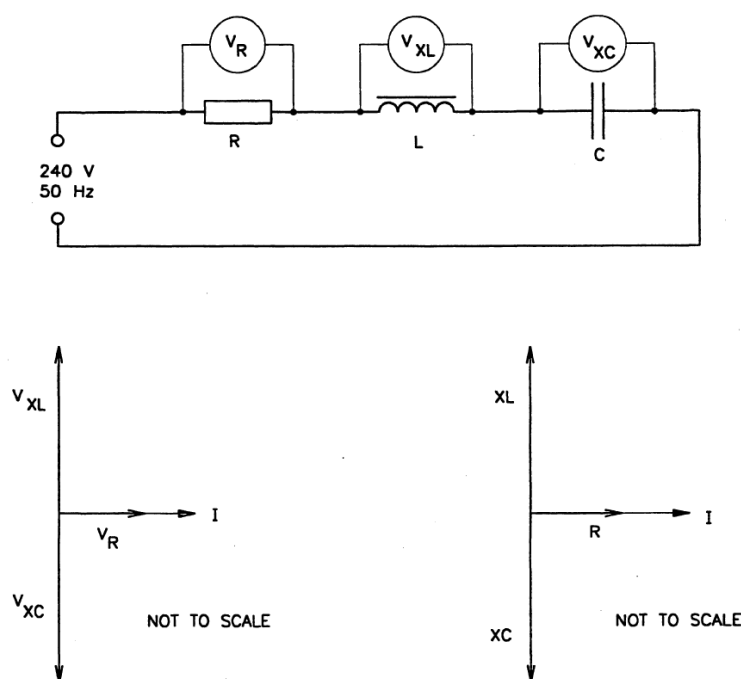

Figure 12 - Resonant RLC series circuit
44. Under these conditions it is possible for an extremely high current to flow in the circuit, and for dangerously high voltages to occur across the reactive components. Consider the example of a 240V, 50Hz series RLC circuit, in which the inductive reactance and the capacitive reactance are both 1000Ω , and the resistance is 12Ω – as shown in Figure 12.